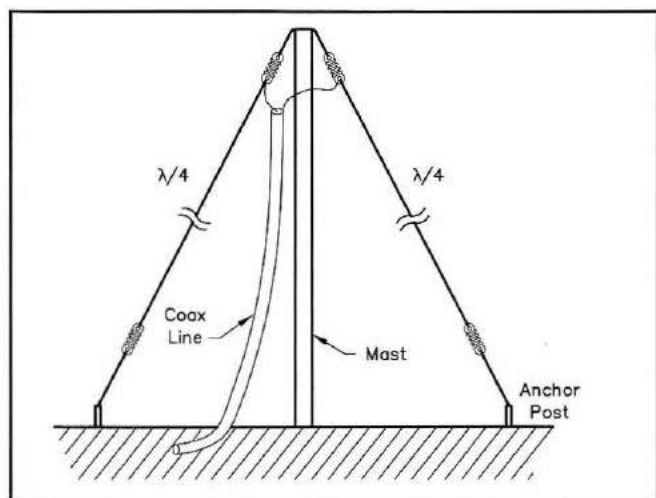

Fig 1-11—This antenna is shaped like an upside down V.
**A** Most half-wave dipoles are mounted horizontally, although they could be mounted vertically, or even at an angle. However, to have a dipole be straight generally requires two supports. It is also possible to use a single support and mount the center of the antenna on that support and allow the ends to slope toward ground. This type of antenna looks like an upside-down V, so it is commonly called an inverted V antenna. The same principle can be used to position an antenna in an upside-down L configuration. Not surprisingly, this antenna would be called an inverted L. See Fig 1-11.